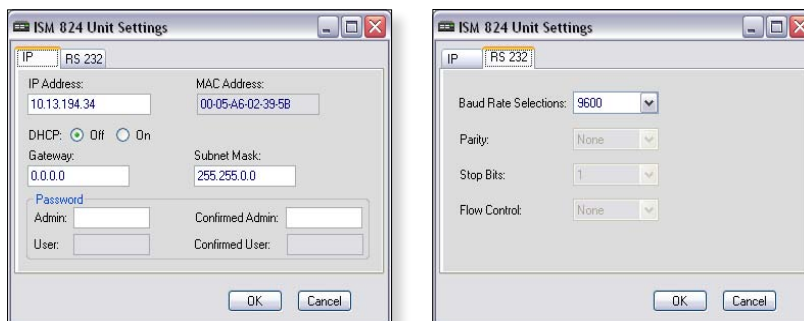

Figure 5-13 — ISM 824 Unit Settings menus – IP and RS-232 windows
- **Unit Settings** — Click on this to open the settings window. This window has two tabs, IP and RS-232, each of which shows the setting for the host controller connection to the ISM 824 (see figure 5-13).